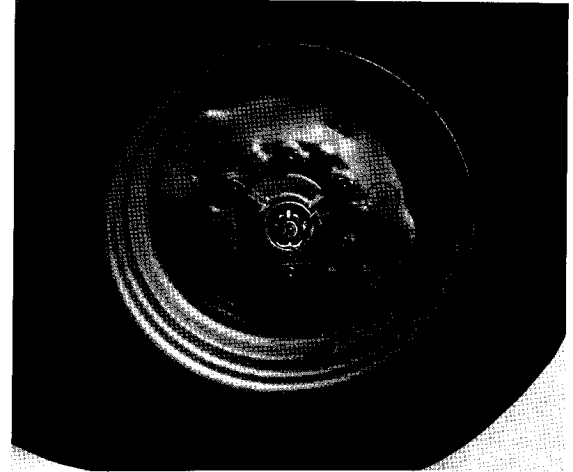

FIG. 19
2. Fig. 19. **Normal Duty Axle.** Remove the split pin (1) and tighten the castellated nut (2) to 80 Nm (60 lbf ft), then slacken off the nut two to three flats to give the correct end float. Fit a new split pin.
- Heavy Duty Axle.** Remove the split pin (1) and tighten the castellated nut (2) to 80 Nm (60 lbf ft), then slacken off the nut to the nearest pin hole and then slacken it off one flat to give the correct end float. Fit a new split pin.